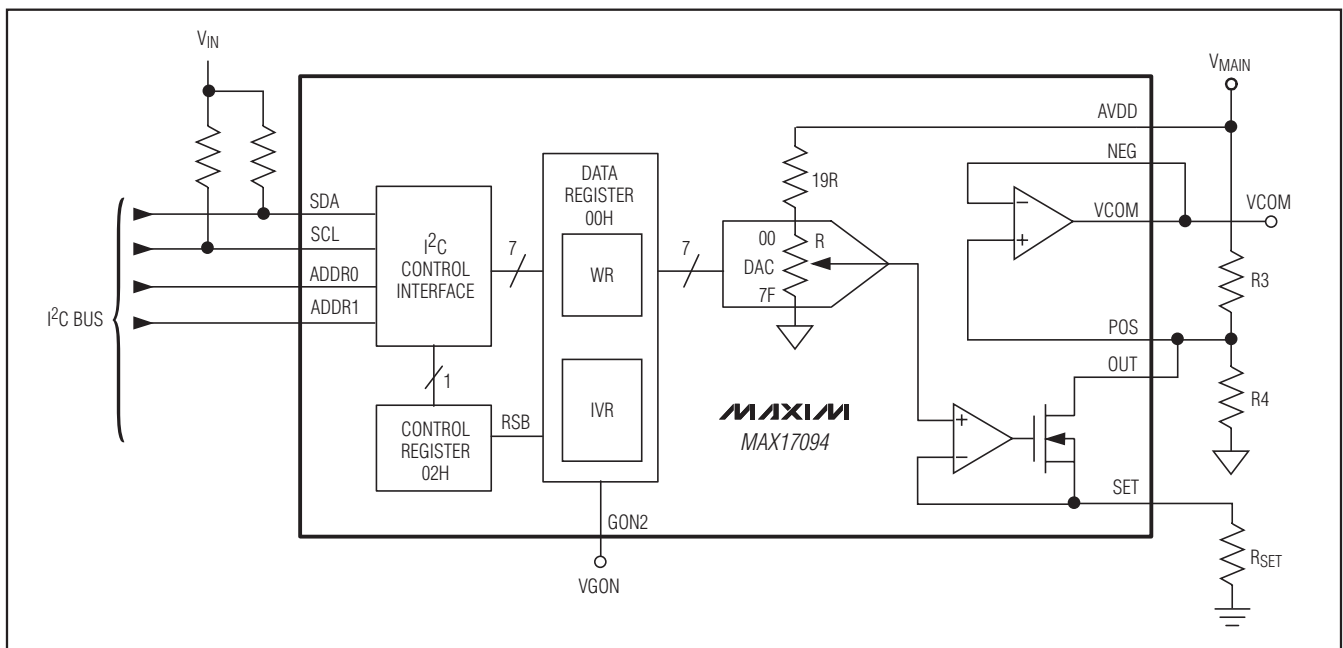

Figure 5. VCOM Calibrator Functional Diagram
The VCOM calibrator is a solid-state alternative to mechanical potentiometers used for adjusting the LCD backplane voltage (VCOM) in TFT LCD displays. OUT attaches to the external resistive voltage-divider at the POS terminal of the op amp and sinks a programmable current (IOUT), which sets the VCOM levels (Figure 5). The DAC setting that controls the wiper setting of the potentiometer is directly determined by the value stored in the wiper register (WR). Changing the value in WR allows the user to change the wiper position to increase or decrease the VCOM levels. The user can store a WR setting into the nonvolatile initial value register (IVR) such that on power-up, WR is preset to the last stored value in IVR. The 2-wire I2C interface between the system controller and the programming circuit adjusts WR and programs IVR. The resistive voltage-divider and AVDD supply set the maximum value of VCOM. OUT sinks current from the voltage-divider to reduce the POS voltage level and VCOM output. The external resistor at SET (RSET) sets the full-scale sink current and the minimum value of VCOM.